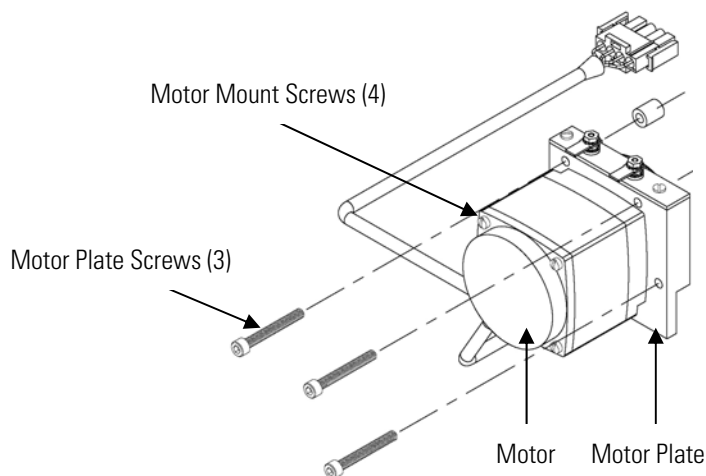

Figure 7–6. Removing the Motor
2. Remove the chopper motor and wheel assembly by removing the three motor plate Allen screws holding the motor plate to the optical bench (Figure 7–6).
4. Insert the 5/64-inch Allen wrench through the access hole in the bottom of the motor plate, loosen the set screw holding the filter wheel to the motor shaft, and **carefully** pry the filter wheel off the motor shaft (Figure 7–5).